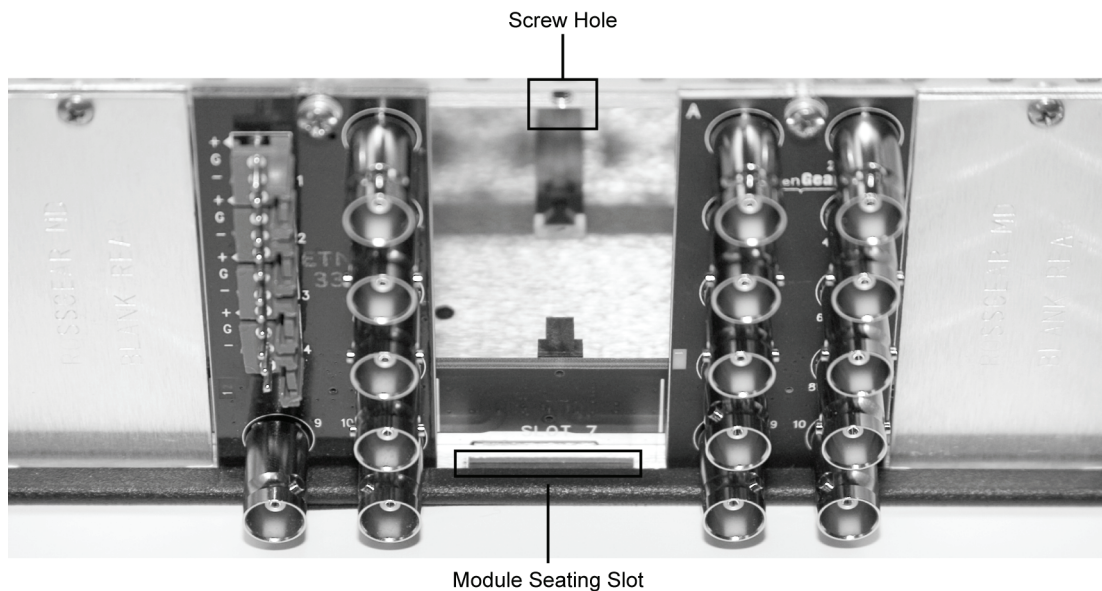

Figure 2.4 Rear Module Installation — DFR-8310 series frame
5. Seat the bottom of the Rear Module in the seating slot at the base of the frame back plane. (**Figure 2.4**)
6. Align the top screw of the Rear Module with the screw hole on the top edge of the DFR-8300 series frame back plane. (**Figure 2.4**)